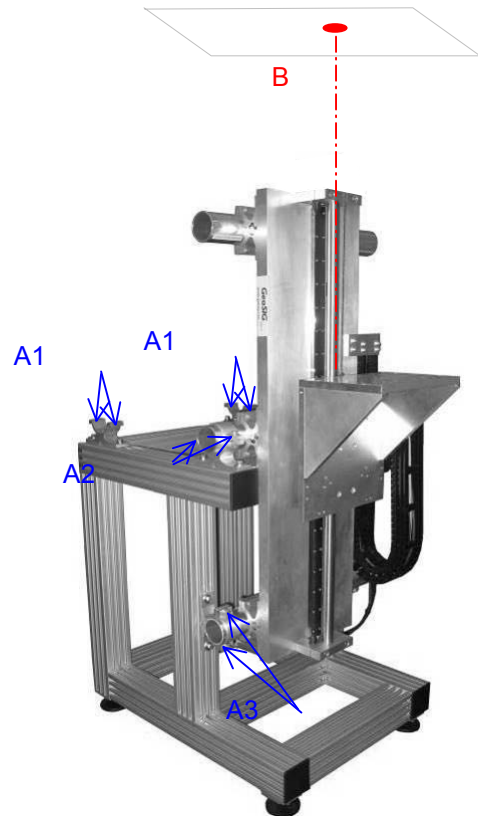

Figure 15, Vertically oriented Shaker
- Remove the four screws at the back of the shaking table (see **A1** in the Figure 15)
- Move the platform from the horizontal to the vertical position as shown in the Figure 15.